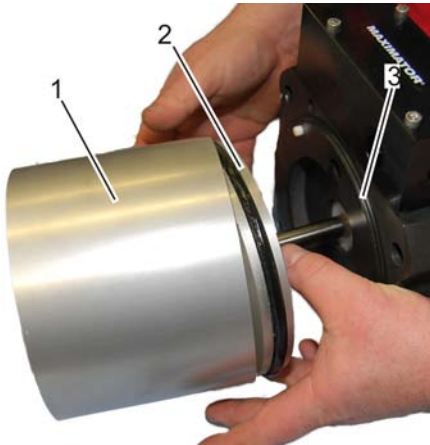

Fig. 72: Detaching the air cylinder
11. Carefully detach air cylinder (Fig. 72/1) from air piston (Fig. 72/2).
12. Check seal of upper cap (Fig. 72/3) and replace if necessary.